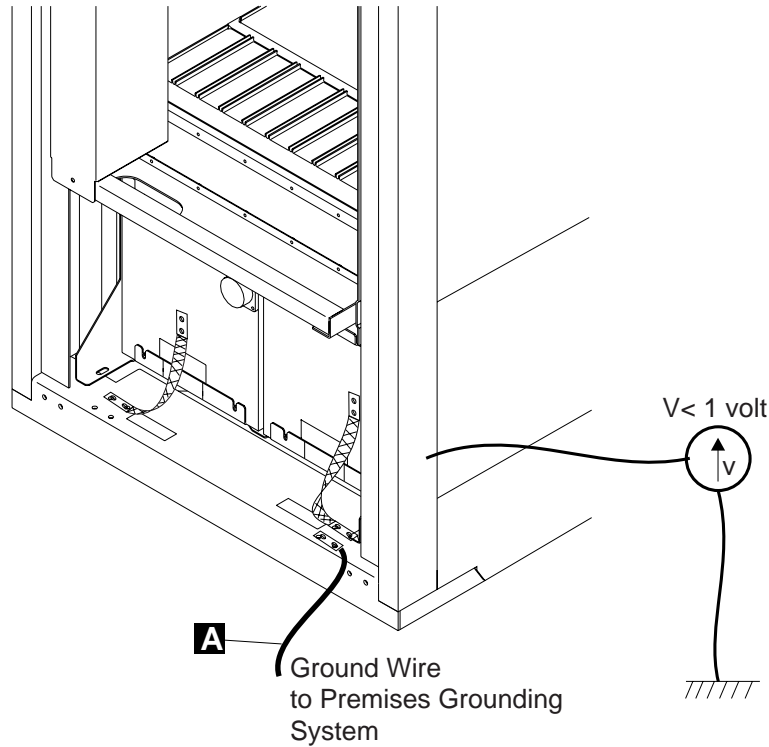

Figure 36. Nways Switch Grounding Requirements
- A user-supplied wire. The grounding point location and grounding wire diameter are given on Figure 36 on page 118.
1. In all cases, the voltage measured between the machine frame and the ground (not the ground source connection) must be less than 1 Volt as shown in Figure 36 on page 118.